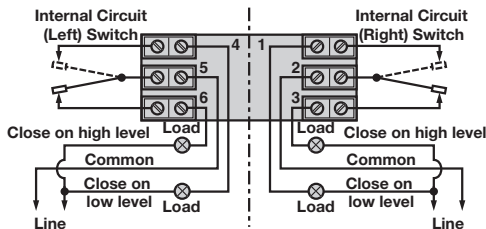

Figure 4
5. The switch terminals are located next to the conduit outlet to facilitate wiring. Bring supply wires through conduit outlet. Route extra wire around enclosing tube under the baffle plate, and connect them to the proper terminals. Refer to the wiring diagram, Figure 4, or your switch bulletin for this information.